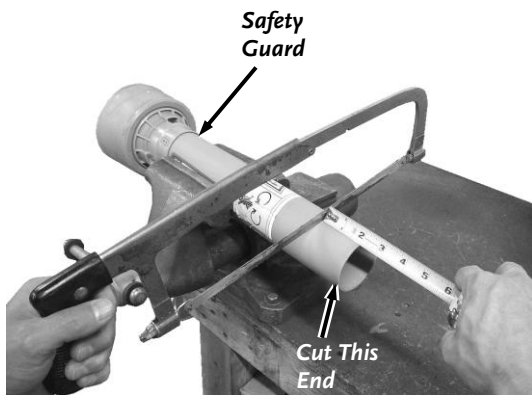

Figure 15
3. Measure and cut the ends of both Guards the required amount (**Figure 15**).